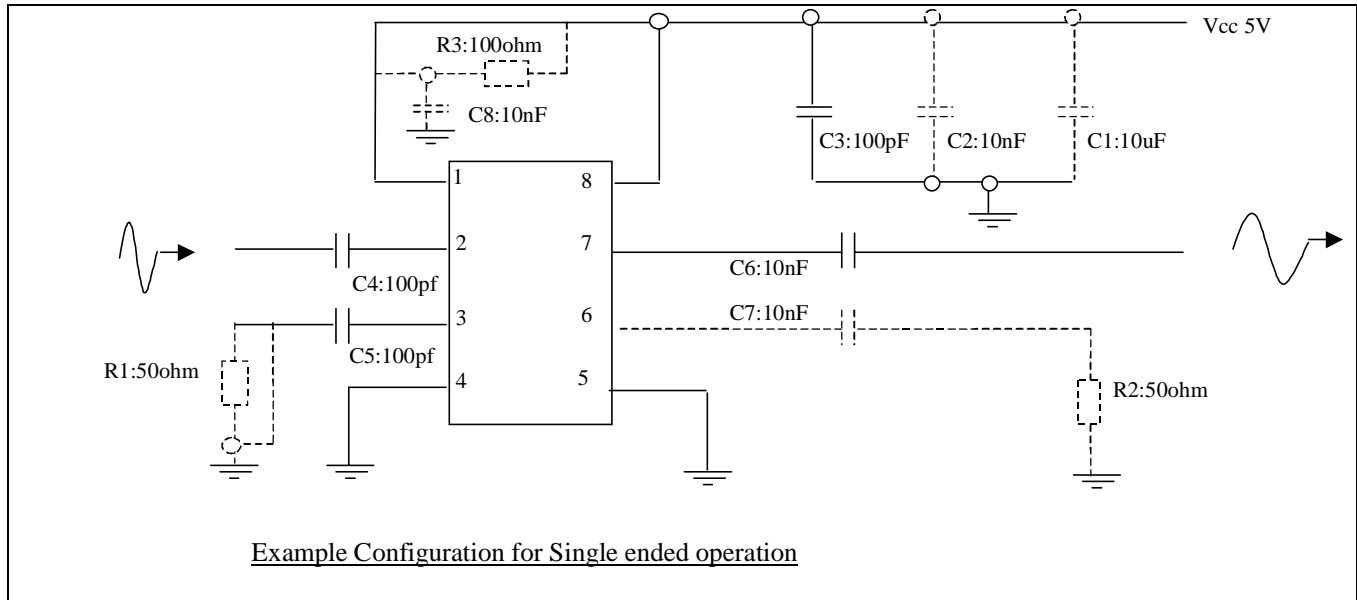

Figure 2 - Recommended circuit configuration
Figure 2 shows a recommended application configuration. This example shows the devices set up for single ended operation.
1. Pin 1 is the Vcc pin for the 1st stage bias current. In some applications e.g. if the power supply is noisy, it may be advantageous to add further supply decoupling to this pin (i.e. an additional R, C filter, see diagram of the recommended circuit configuration, Figure 2).